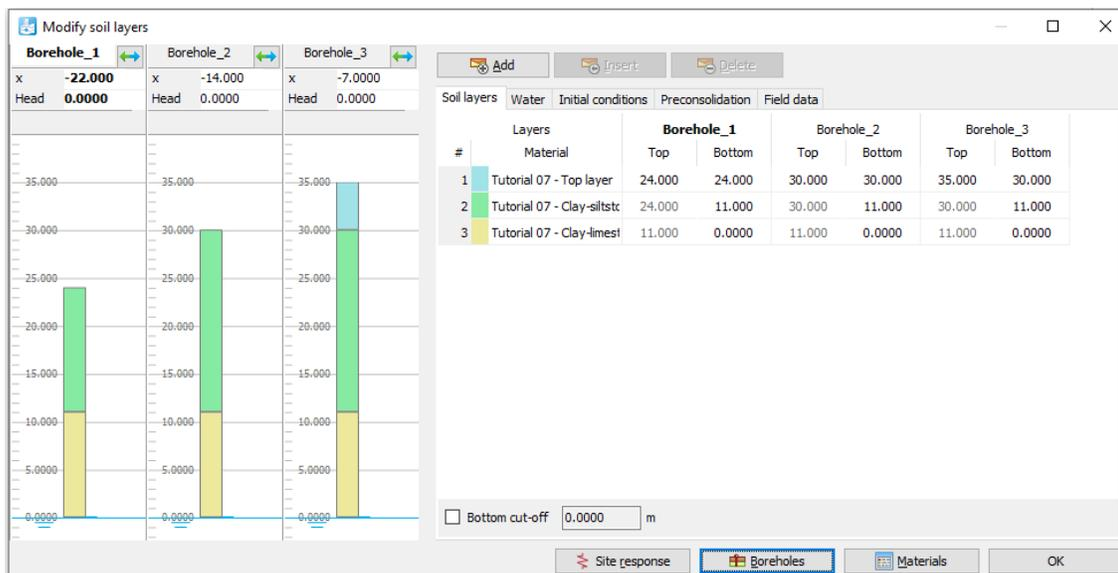

Figure 53: Soil layer distribution
10. Specify the soil layer distribution as shown in Figure 53 (on page 84).
1. Create soil material data sets according to Table 11 (on page 84) and assign them to the corresponding layers (Figure 53 (on page 84)).